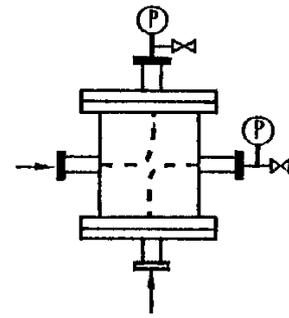

Fig. 9
- (1) As shown in right Fig. 9, fix closed flange and pressure gage to each flow path.